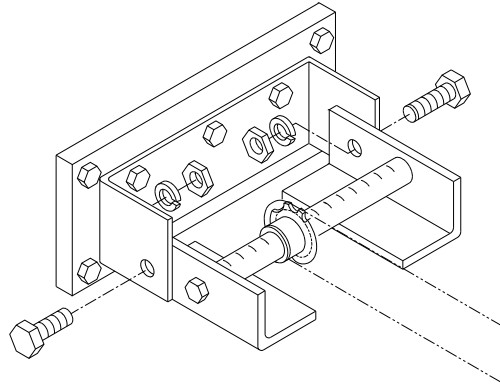

Figure 9 Installing tracks on wall bracket
8. After securing the wall mounting bracket, allow the motor to rest on floor and raise the front end of the rails and secure (but not tighten) with 5/16" bolts and nuts (Figure 9). If torsion hardware is preventing the rails from lining up with the wall bracket, secure temporarily with cord.